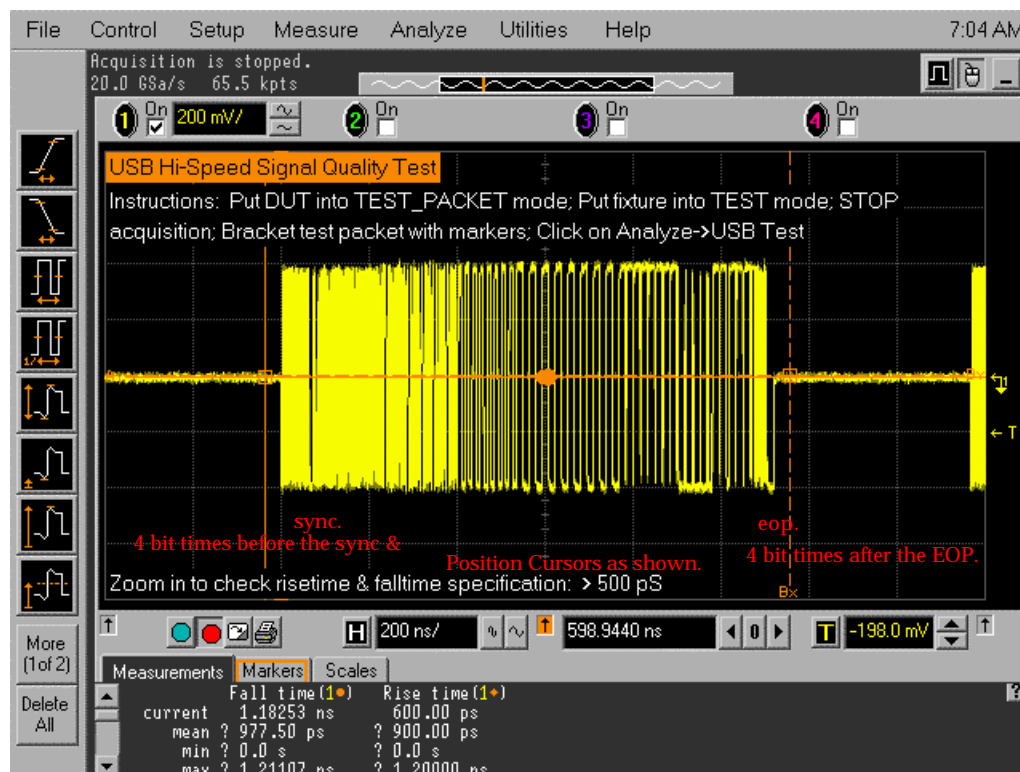

Figure 16. Test Packet – Downstream Facing Repeater Jitter
9. On the oscilloscope place the two vertical cursors around one test packet, as shown in Figure 16